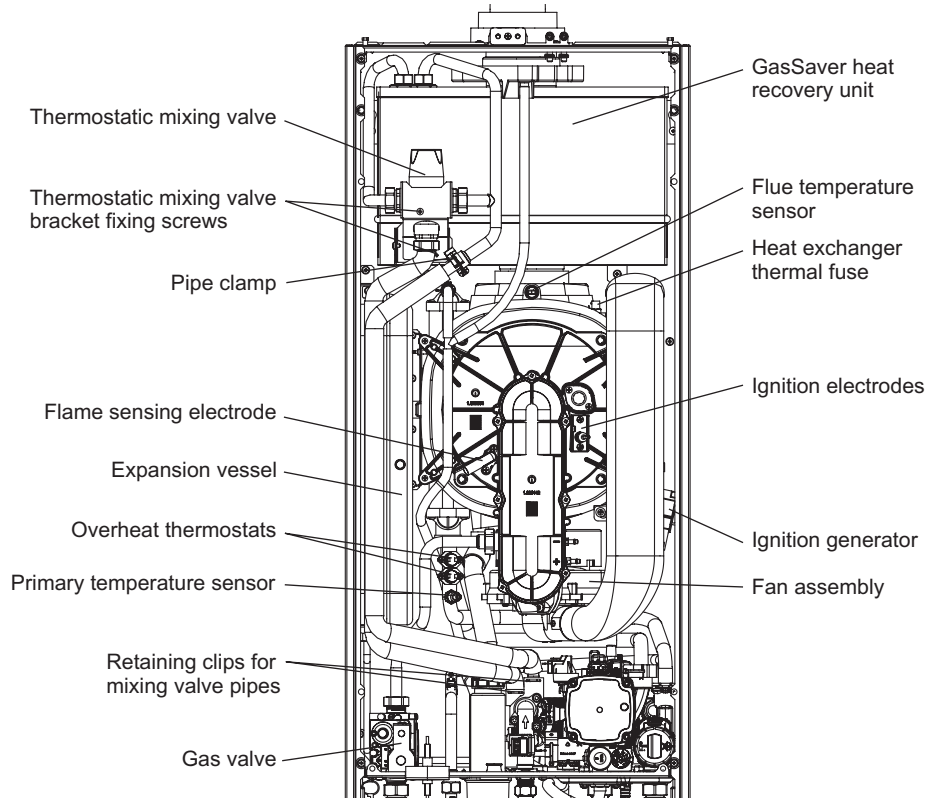

Fig. 7.1
### 7.3 ELECTRODES - Fig. 7.1
### 7.6 IGNITION GENERATOR - Fig. 7.1
### 7.7 OVERHEAT THERMOSTATS - Fig. 7.1
### 7.8 FLUE TEMPERATURE SENSOR - Fig. 7.1
### 7.9 GAS VALVE - Fig. 7.1
### 7.19 PRIMARY HEAT EXCHANGER - Figs. 7.1 and 7.4
3. Unplug the connections from the flue temperature sensor and thermal fuse, see Fig. 7.1.